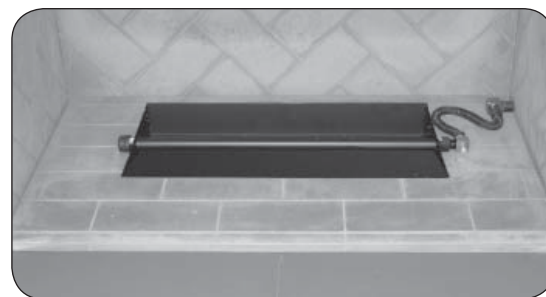

Fig. 9-2 Center burner in fireplace
4. Place the burner system in the fireplace. Center the burner from left to right in the fireplace. See Fig. 9-2.